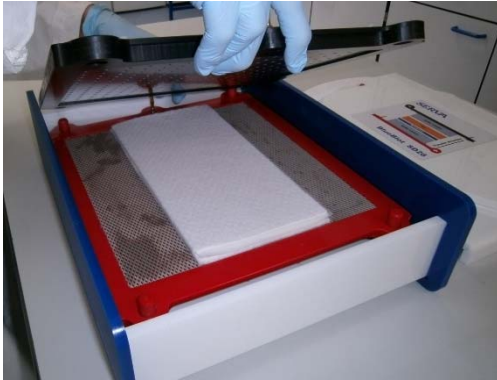

Fig. 22
- Carefully place the cathode on the blotting stack to avoid any shift of the stack (Fig. 22).